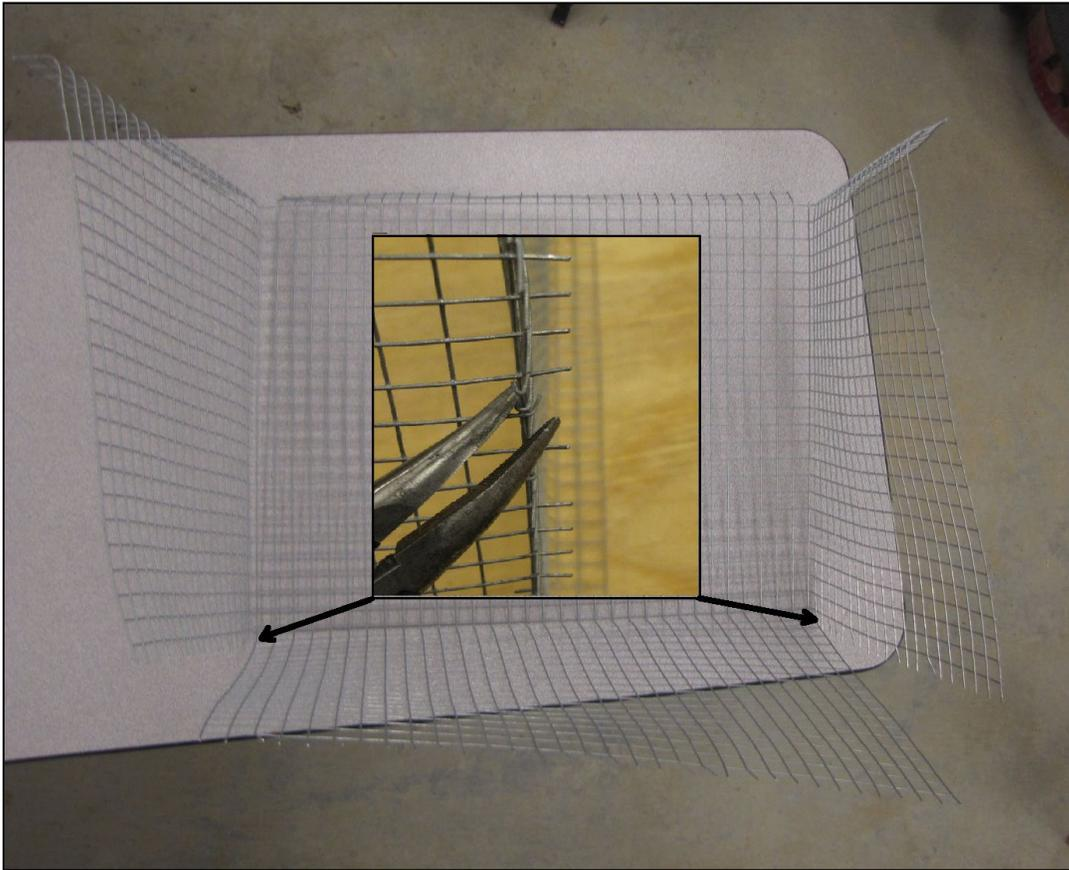

Figure 1-30
d. Connect the corners using tag ends (Figure 1-30).